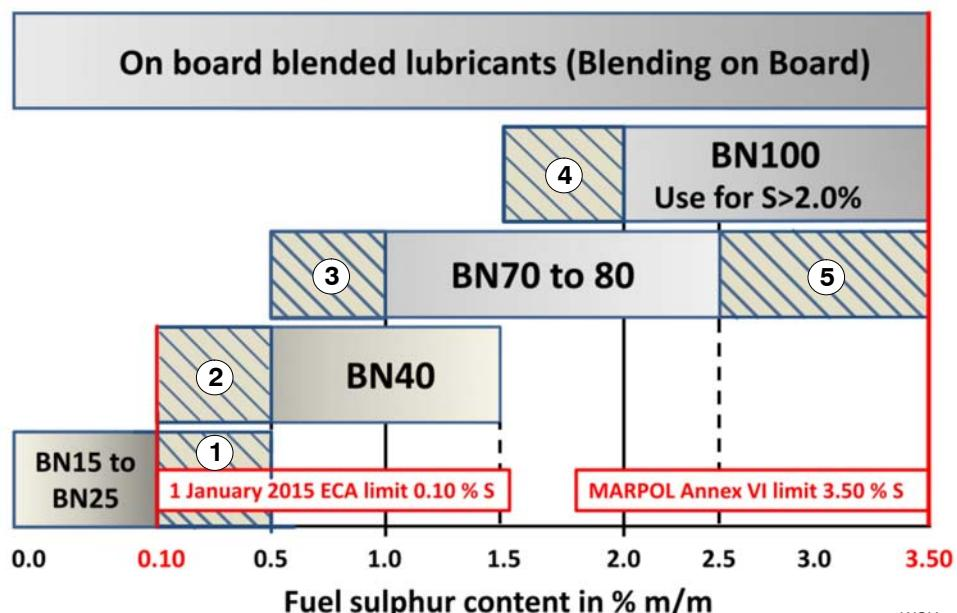

Fig. 1: Relation between Fuel Sulphur Content and Cylinder Lubricating Oil BN
Fig. 1 shows recommendations of applicable cylinder lubricating oils related to the sulphur content of the used fuel. Also shown is the data for fuel with a sulphur content in the range of 1.5% m/m to 3.5% m/m and cylinder lubricating oil with a base number between BN 50 to BN 100.
If you do not use an on-board monitoring programme to monitor the piston underside drain oil, use the data given in Fig. 1 to choose an applicable cylinder lubricating oil. For data about the applicable feed rates, see 7218-1 Cylinder Lubrication and 7218-3 Feed Rate – Adjustment.
- Range 1 (see Fig. 1): When the fuel sulphur content is more than 0.1% m/m and less than 0.5% m/m during operation with BN 15 to BN 25 cylinder lubricating oil, you must do an analysis of the piston underside drain oil from the on-board monitoring system. You must obey the data that follows:
- Range 2 (see Fig. 1): When the fuel sulphur content is more than 0.1% m/m and less than 0.5% m/m during operation with BN 40 cylinder lubricating oil, operation is permitted only, when you do an analysis of the piston underside drain oil from the on-board monitoring system. You must obey the data that follows:
- Range 3 (see Fig. 1): When the fuel sulphur content is more than 0.5% m/m and less than 1.0% m/m during operation with BN 70 to BN 80 cylinder lubricating oil, operation is permitted only, when you do an analysis of the piston underside drain oil from the on-board monitoring system. You must obey the data that follows:
- Range 4 (see Fig. 1): When the fuel sulphur content is more than 1.5% m/m and less than 2.0% m/m during operation with BN 100 cylinder lubricating oil, , operation is permitted only, when you do an analysis of the piston underside drain oil from the on-board monitoring system. You must obey the data that follows:
- Range 5 (see Fig. 1): When the fuel sulphur content is more than 2.5% m/m and less than 3.5% m/m during operation with BN 70 to BN 80 cylinder lubricating oil, operation is permitted only, when you do an analysis of the piston underside drain oil from the on-board monitoring system. You must obey the data that follows: